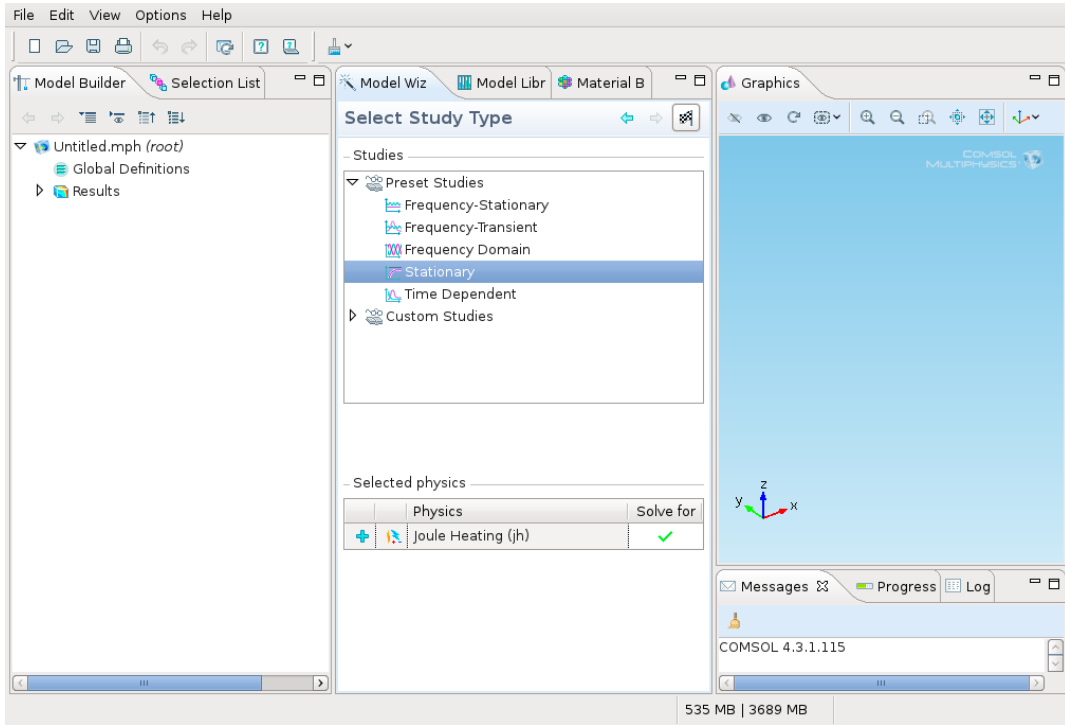

Figure 5: Selecting the type of the simulation.
- 4 Select *Stationary* on the *Select Study Type* panel. Then click the *Finish* button (Fig. 5).